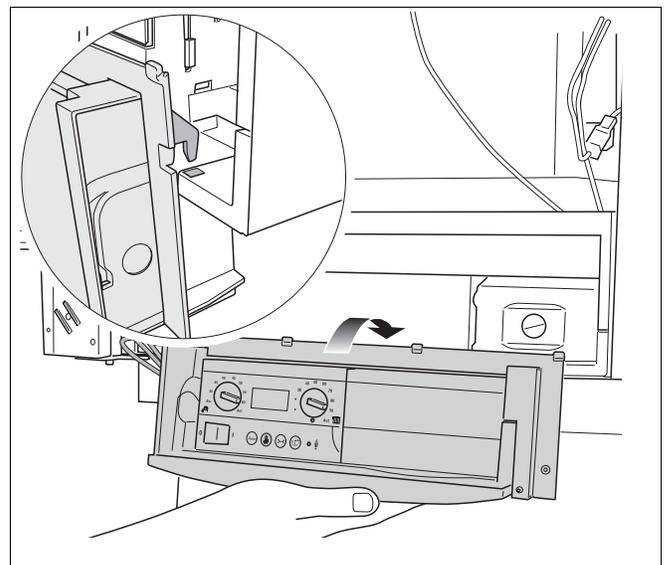

Fig. 98 Hanging the control panel from the boiler frame
- Use the two hooks to hang the control panel from the boiler (fig. 98).